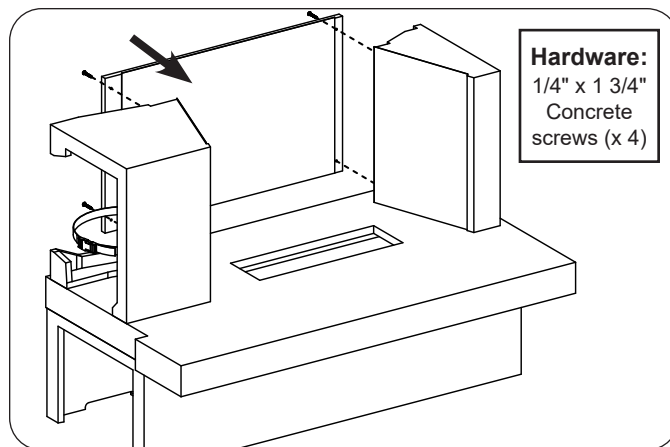

Fig. 21-1 Install inner rear-panel
5. Place the inner rear-panel in position against the rear of the fire box, then fasten using a Phillips screwdriver and the supplied concrete screws (see Fig. 21-1).